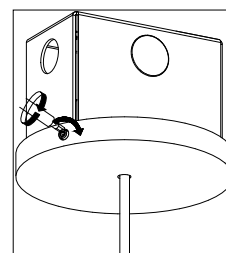

Figure 3: Canopy Mounting
6. Reattached canopy cover by turning set screw clockwise while pressing canopy cover firmly to base [Figure 3].